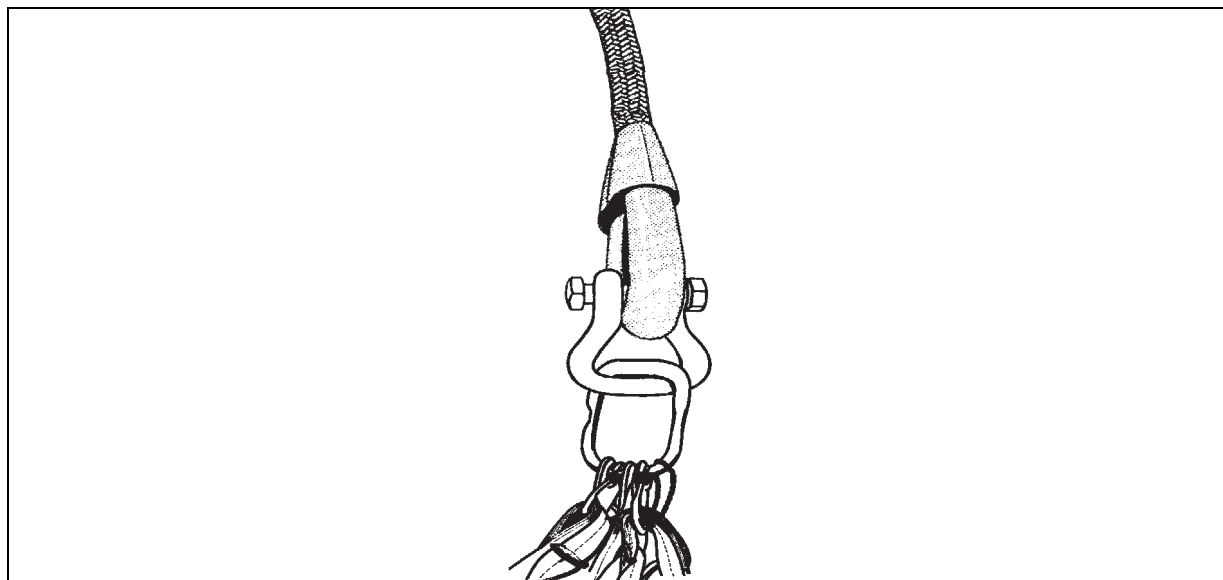

Figure 7-13. Vertical Pendant Added
- Normally the net apex fitting is directly attached to the cargo hook. If the load is a large one, the lifting legs may not be long enough to allow the hookup man to perform a safe hookup to the aircraft. If you cannot lift the apex fitting at least 6 feet above the top of the load, add an appropriate size sling leg, a reach pendant, or vertical pendant (figure 7-13).